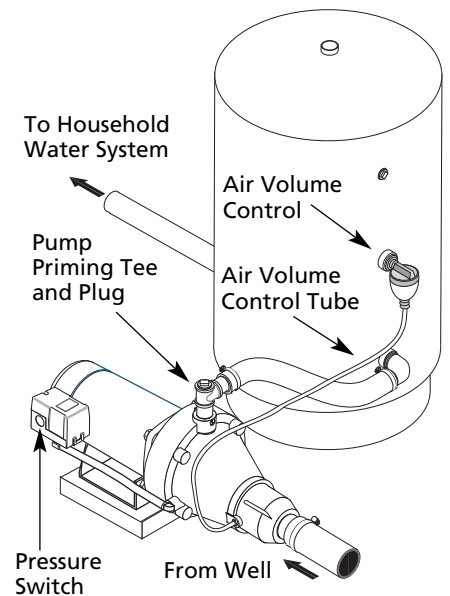

Figure 7 – Standard Tank Connections
(see Figure 7)
1. Install one tee in the pump discharge port (see Figure 7).
3. Remove the 1/8" NPT pipe plug from the pump Air Volume Control (AVC) port (see Figure 7). Run tubing from the pump's AVC port (see Figure 7) to the port on the AVC mounted on the tank. See instructions provided with tank and AVC for details. AVC port location will vary, depending on your pump model (See exploded view, Page 19).